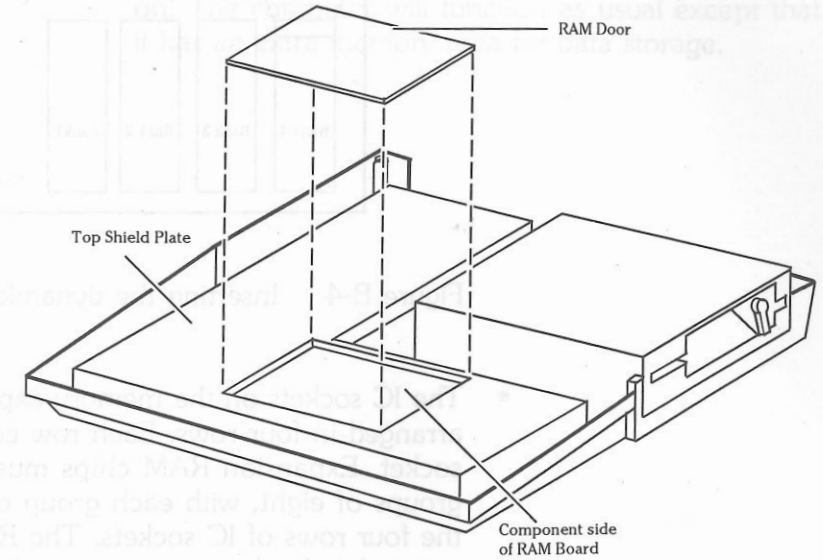

Figure B-3 Removing the top shield plate
- Remove the RAM door on the top metal shield - plate using a screwdriver as shown in Figure B-3.